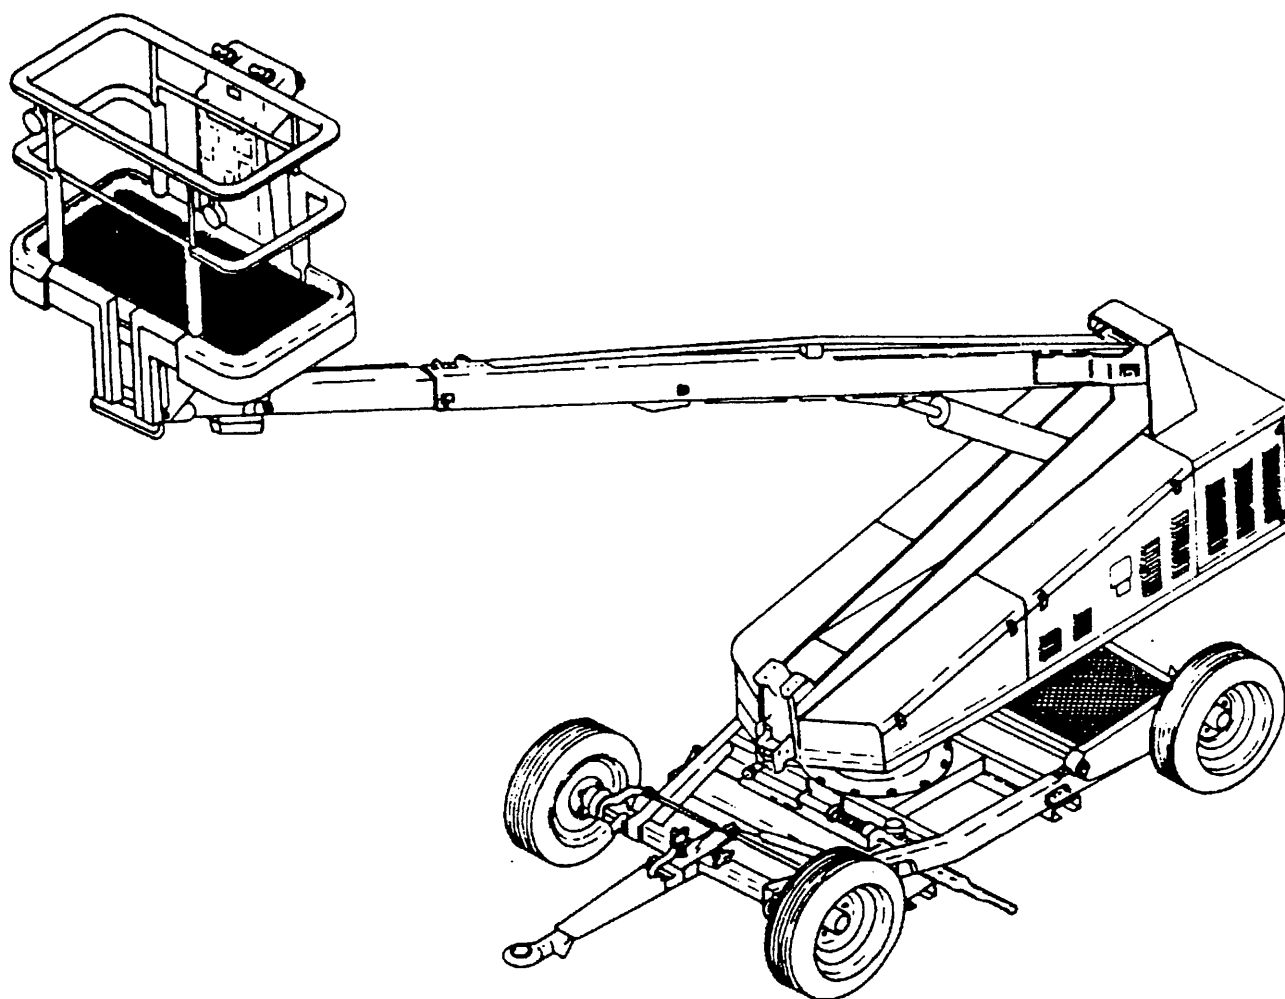

Figure 9-4. SPEM Stand
(4) Self-propelled elevated maintenance workstand. The Self-Propelled Elevated Maintenance (SPEM) workstand, shown in figure 9-4, is driven by a gasoline engine. The stand is self-propelled at 2 mph and can be driven from the workbasket.